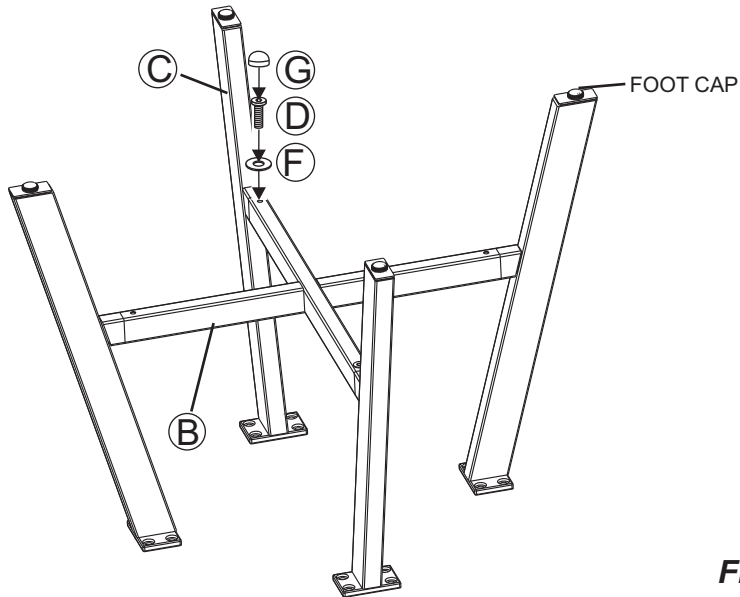

Figure 1
- 1 Attach a table leg to the leg connector bracket by using a 1/4"x15 mm bolt and washer as shown in **Figure 1**. Guide the bolt through the hole in the leg connector bracket, into the pre-drilled hole in the leg. **Hand tighten only 2-3 turns**. Repeat for the other three legs.